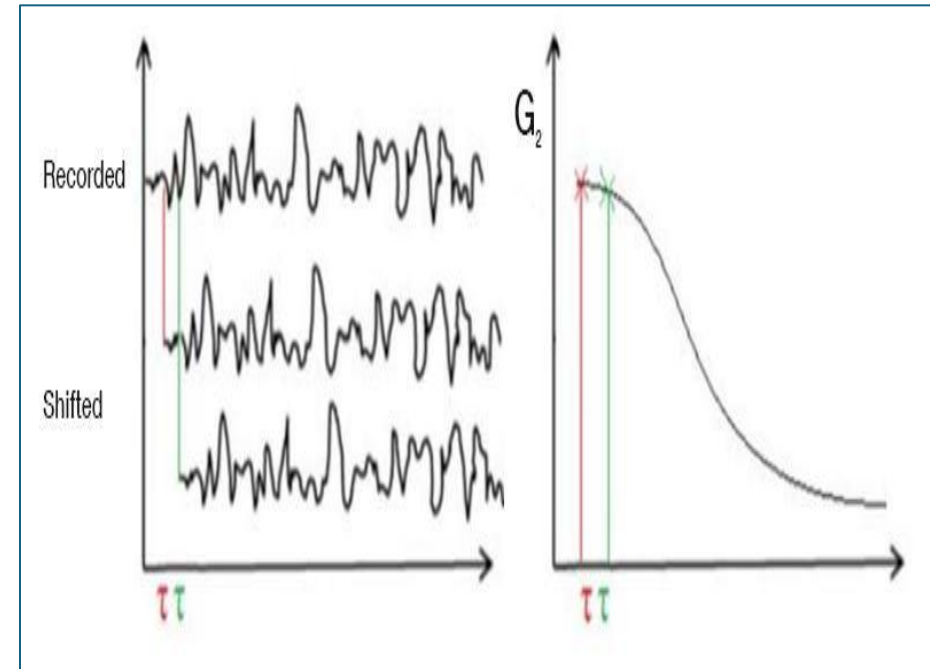

Figure 3: Translating the intensity trace (left panel) into a correlation function (right panel)
- The **intensity of the scattered light at a time t** is compared with the intensity of the same intensity trace shifted by the delay time τ (tau) as visualized in Figure 3. (Different delay times are marked by a different color).